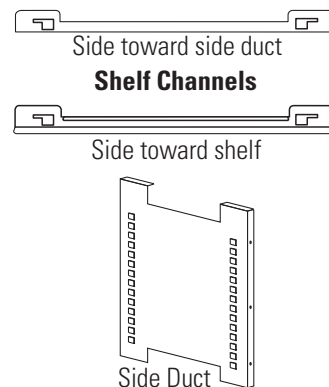

Figure 1-8. Shelf Channels & Side Duct
1. Install the side ducts with the tabs facing into the center of the chamber with their slots up, and the smaller cutout to the top. There are no right side or left side ducts, simply rotate one of them to fit the opposite side. Tilt the side ducts as they are placed in the chamber so the tops fit into the top air duct, then guide them into the vertical position. Figure 1-8 shows the duct as it would be oriented for the right side of the chamber.